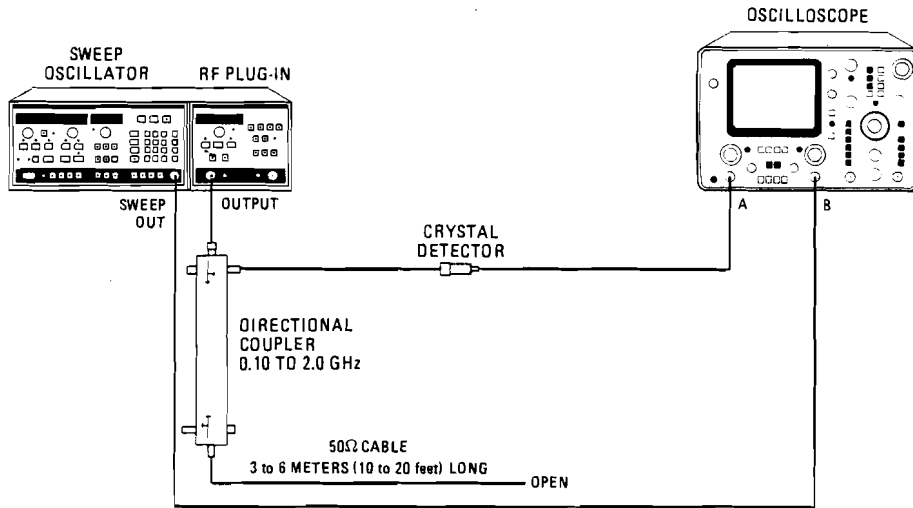

Figure 4-10. Low Frequency Output VSWR Test Setup
1. If the specified output frequency range of the plug-in under test is lower than 2 GHz connect equipment as shown in Figure 4-10 if not go to step 7.